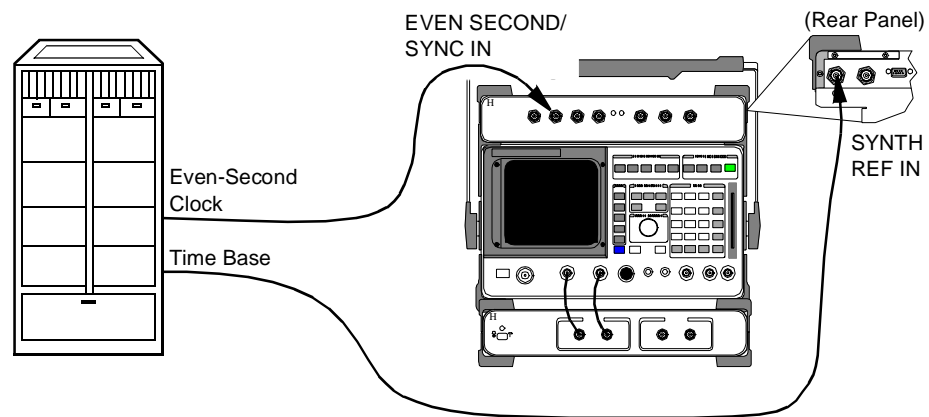

Figure 24
- 1 You can start with the connections shown in *figure 24*. You will get prompts from the Software to change the Even-Second clock connection when needed.